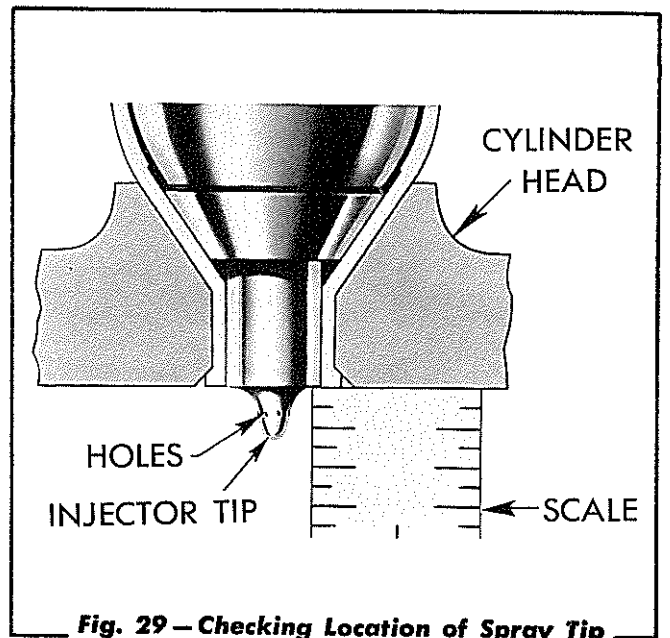

Fig. 29 – Checking Location of Spray Tip
- c. Using a cutting compound consisting of equal parts of cutting oil and kerosene, ream the bevel seat for the injector nut so that the shoulder of the spray tip will be just flush with the under surface of the cylinder head (Fig. 29). Check the depth of the cut during the reaming operation by installing an injector in the tube and taking measurements.